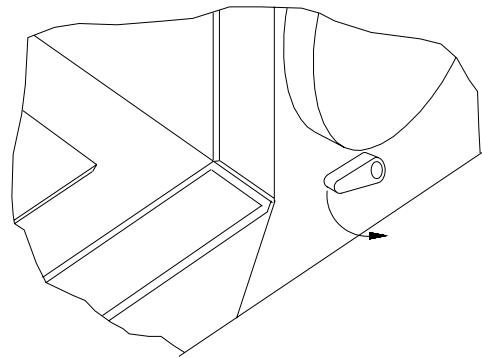

Fig. 7
- Turn the lever downwards in the direction of the arrow, to loosen the handwheel lock (fig. 7).